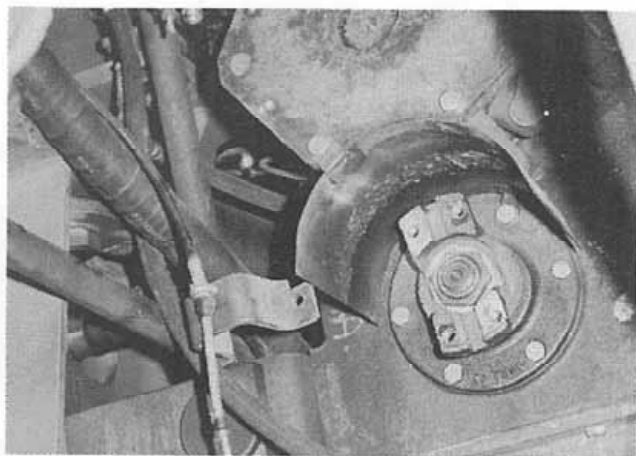

Figure 4:
6. Remove the front lower driveline and disconnect the park brake cable intact with its bracket and yoke (Fig. 4).